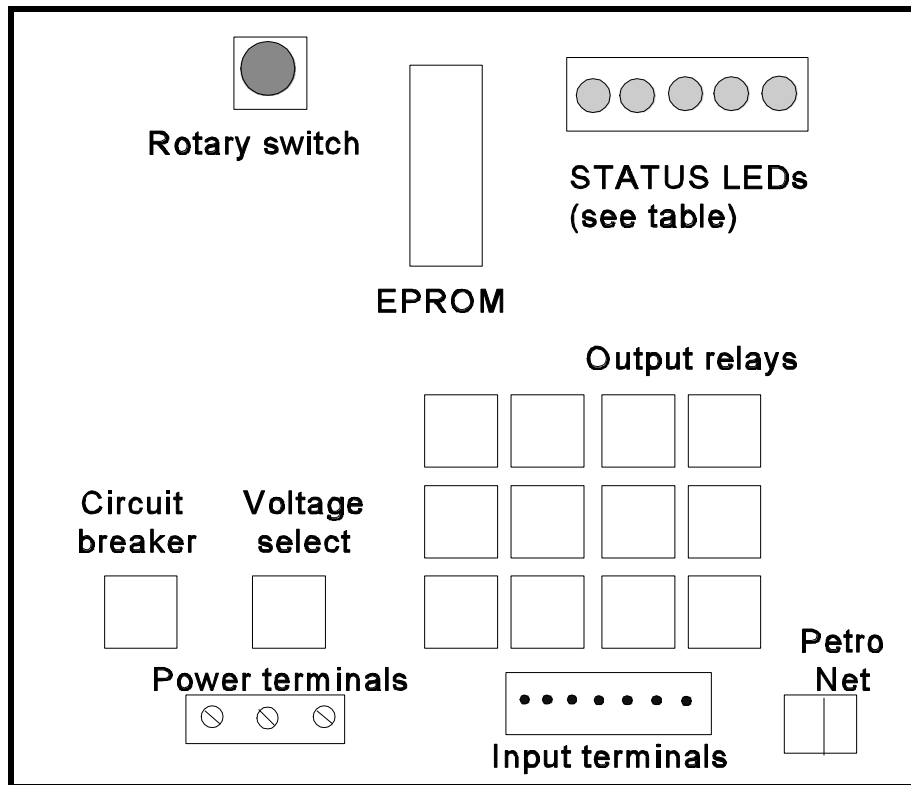

Figure 29 - I/O Module Board Overview
See Figure 29. There are four pairs of pins (“Input Terminals”) in each I/O Module for input devices. Pins 2, 4, 6, and 8 are common. Pins 1, 3, 5, and 7 are at 5 VDC potential. Inputs are all optically isolated.
There are 12 output relays (Figure 29) in each I/O Module for output devices. Each relay has three "quick connect" terminals: (1) common, (2) normally open, and (3) normally closed. Female "quick connect" terminals for the device wiring are provided with each I/O Module.